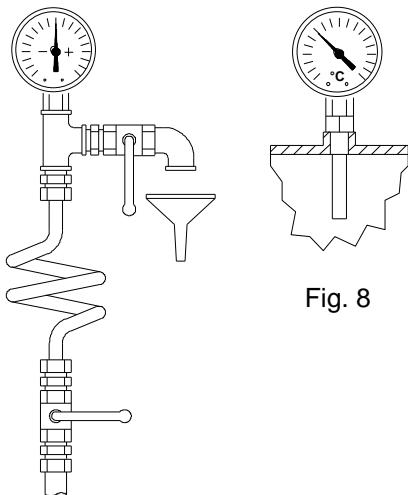

Fig. 8
- b) Temperature gauges should be installed with thermowells selected for the specific purpose and fitted in strategic locations where the reading is required (see fig. 8).